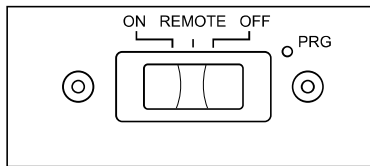

Figure 52 - Remote Selector Switch in ON Position
10. Wait one minute and switch selector switch to the ON position to light burners (see **Figure 52**). When using in the ON position (without remote) burners will light on high. There is no adjustment to the flames without using remote.